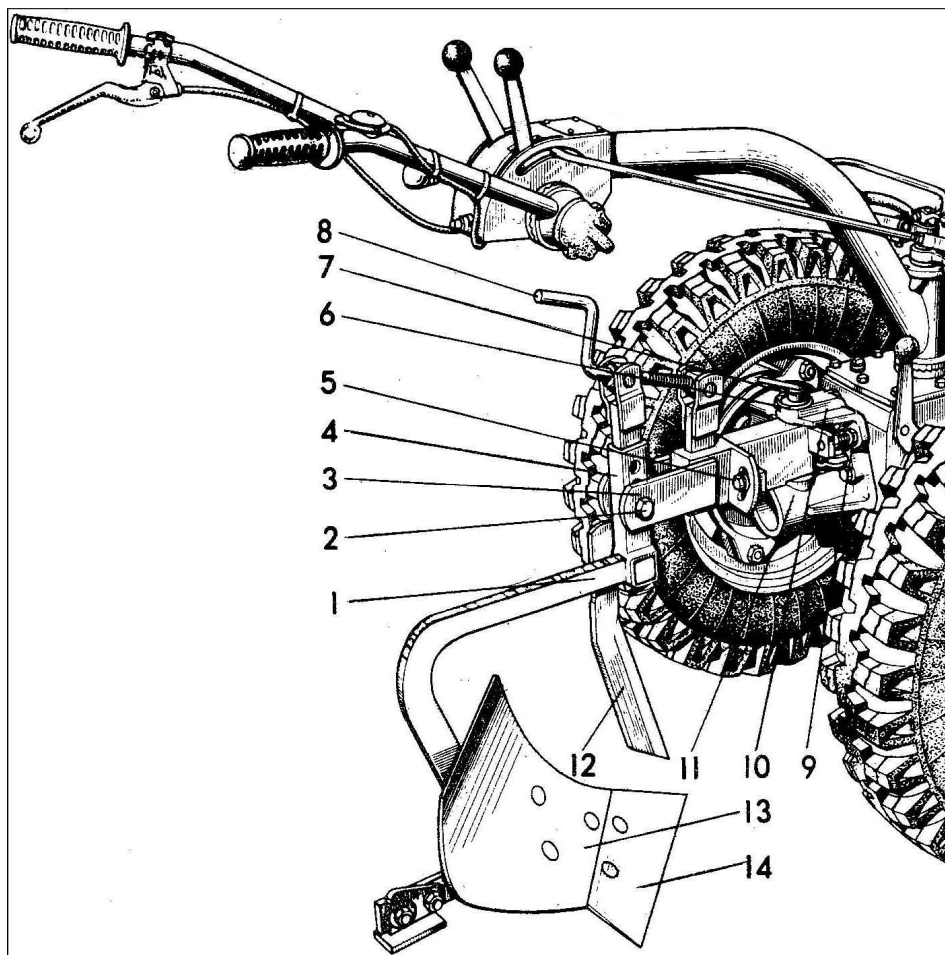

Figure 15 – Tractor coupled with plough
1) Set a universal hitch 3 (fig. 15) on the plough into a working position and tighten with a bolt 2. Turning a handle 8 set moving members of the hitch in line with unmovable elements and with a pivot 7 attach a plough with a coupler to a hitch iron 10 and fix the pivot with a key 6.
7.4.6 If during operation the tractor deviates to the right side, check the center plates for good tightening. If they stay at the right place then lift the right ridger by 1-2 sm using the bolt 5 of the sector (fig. 15), tighten the bolt and check at work.